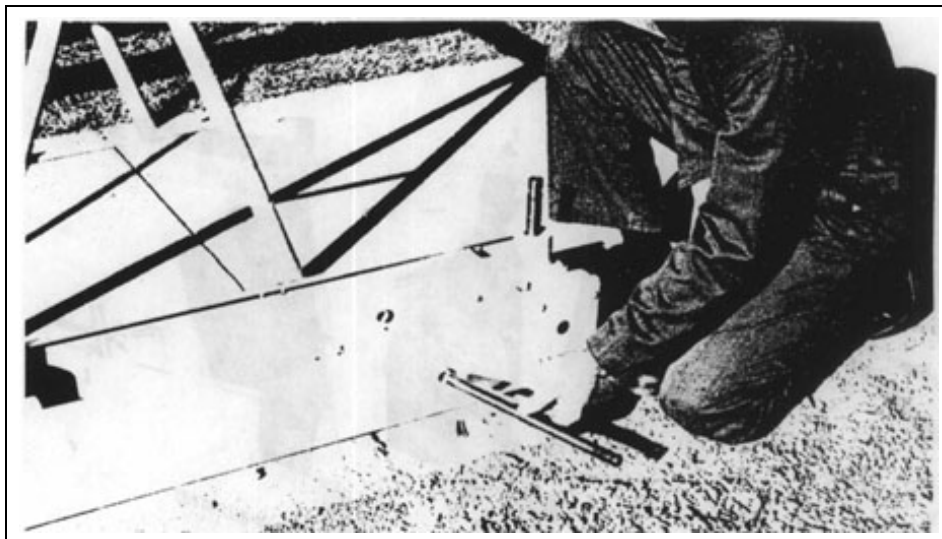

Figure 4I
13. Place the 3/4" x 14" axle shaft through the trolley body axle bushings. Two (2) axles are used on a 4 auger trolley and three (3) axles are used on all 36' 4 auger and all 6 auger trolleys. After the axles have been installed, place one 3/4" SAE washer, the poly-wheel and another 3/4" SAE washer on each side. Secure with a 3/16" x 1-1/4" cotter pin. (*See Figure 4I and Page 44.*)